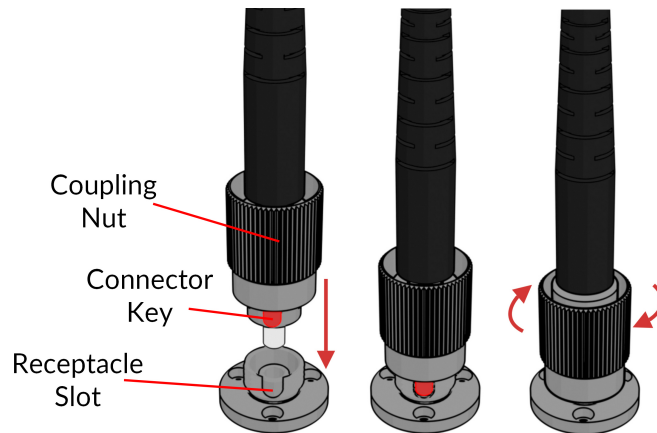

Figure 3.11: FC connector, Fiber Installation
2. With an FC connector, the connector key must be oriented to enter within the receptacle slot to ensure proper connection (Fig. 3.11).